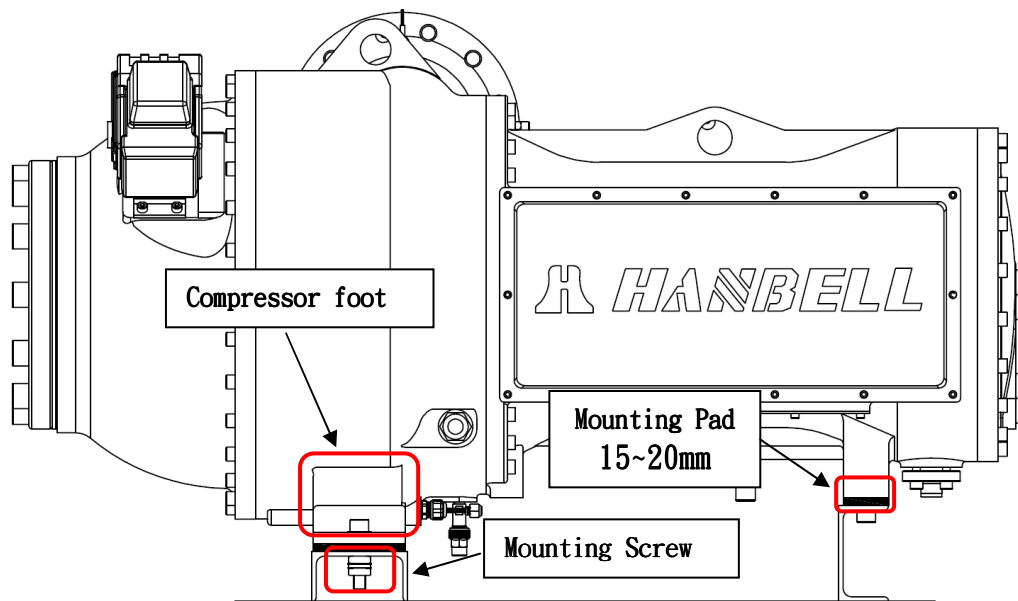

Figure 6.2 Installation of Mounting Pad
3. Compressor has to be installed in horizontal position and installation cushion pad is also recommended, as figure 6.2.